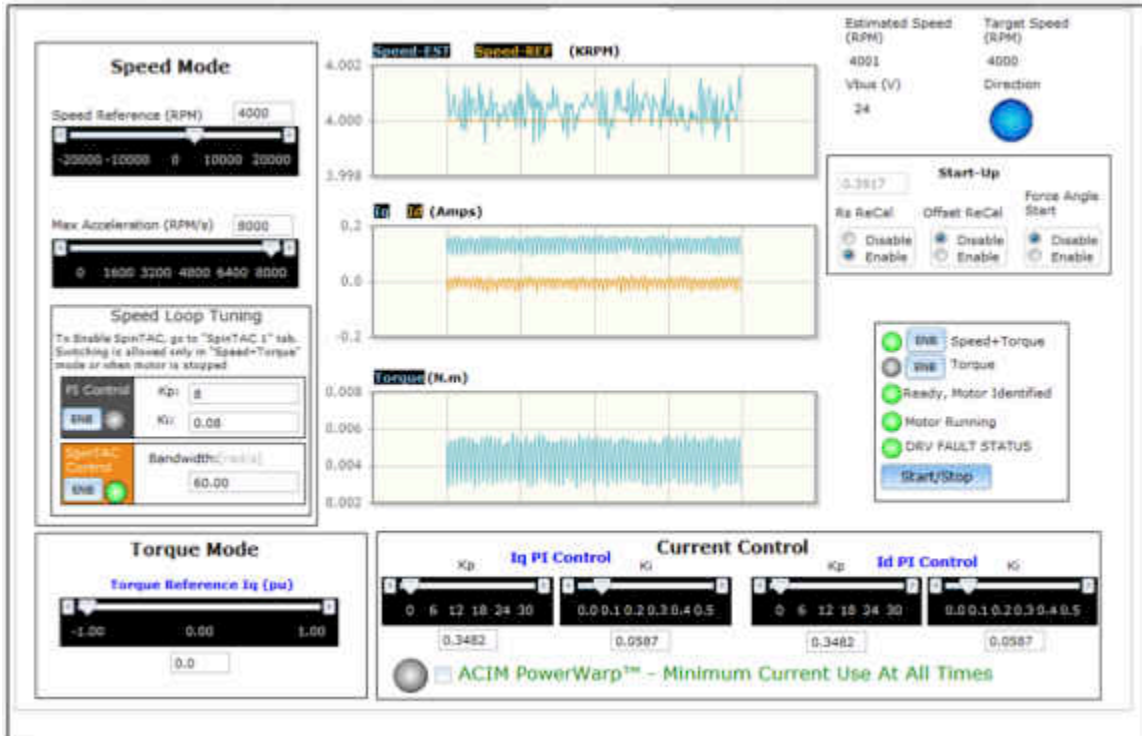

Figure 2-2. InstaSPIN-MOTION™ GUI Using Speed or Torque Tab
2. Tune the torque and/speed control (Figure 2-2).